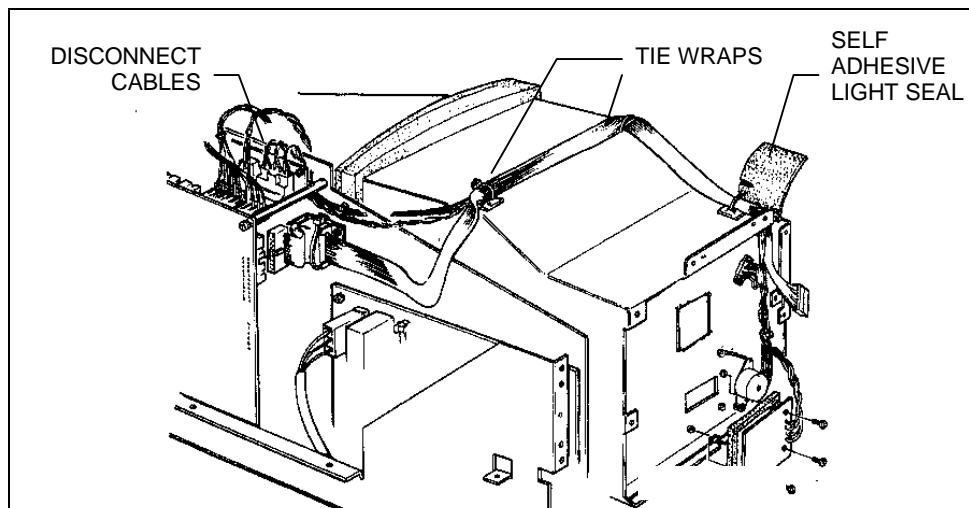

Figure 6- 22. Preparing for Light Box/CRT Removal
10. Turn the unit on its side and identify and remove the two screws at either side of the access area (Figure 6- 23). There are o-rings around the screws, inside the unit. When you remove the screws, these o-rings will fall loose, but, they can be retrieved when the light box is removed.